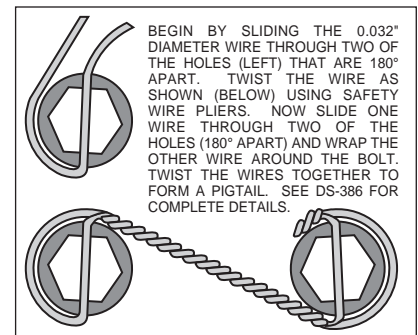
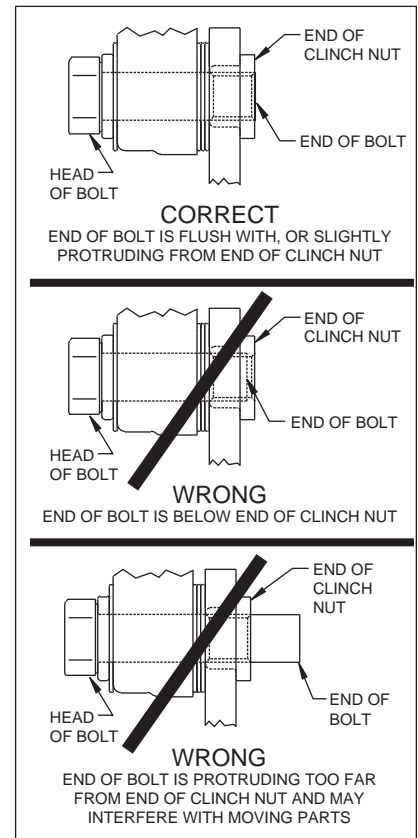

Figure 3. Safety Wire Diagram
Figure 4.
Assembly Instructions (numbers in parenthesis refer to the part list/diagram on the preceding page): **CAUTION:** All mounting bolts must fully engage insert nuts. Be sure to check that all bolts are either flush or protruding through flanged side of insert nut after shimming, Figure 4.
- The rotor (3) has two sides. A flat side and an inset side. Bolt hat (2) to flat side of rotor (3) using bolts (5). Using an alternating sequence, apply red *Loctite*® 271 to the threads and torque bolts to 25 ft-lb. Safety wire bolts using standard 0.032 inch diameter stainless steel safety wire as shown in Figure 3. Refer to Wilwood's data sheet DS-386 (available at www.wilwood.com/Pdf/DataSheets/ds386.pdf) for complete safety wire installation instructions.
- Align the correct hole pattern in the hat (2) with the stud pattern on the axle flange. **NOTE:** *Some OEM and after market axles come with stud sizes larger than 0.50" diameter.* Verify stud size and have a qualified machine shop drill the hats to the correct size. Slide the hat/rotor assembly (2 and 3) over the wheel studs and against the axle flange face.
- NOTE:** *Please reference the caution statement at the beginning of the assembly instructions.* Mount the caliper (6) over the rotor (3) and onto the caliper mounting bracket (1) using washers (7) and mounting bolts (8). View the rotor through the top opening of the caliper. The rotor should be aligned in the center of the caliper. If not, adjust the caliper by using 0.032 inch shims (9) by placing them between the caliper mounting bracket (1) and the caliper (6). Add as many shim washers (9) as necessary to achieve the correct alignment. **NOTE:** *The end of the bolt must be flush with or slightly protruding from the head of the clinch nut.* See Figure 4. Place spare shims (9) between washer and caliper mounting ear to achieve the proper mounting fastener configuration. Always use the same amount of shims on both the top and bottom caliper mounting bolts (8). Apply red *Loctite*® 271 to the mounting bolt threads (8), torque to 40 ft-lb. Caliper mount bolts may be safety wired for additional security.
- Position the Wilwood disc brake pads (10) into the caliper (6) and fasten with cotter pin (4). Steel backing plate side of brake pad should face the caliper pistons.